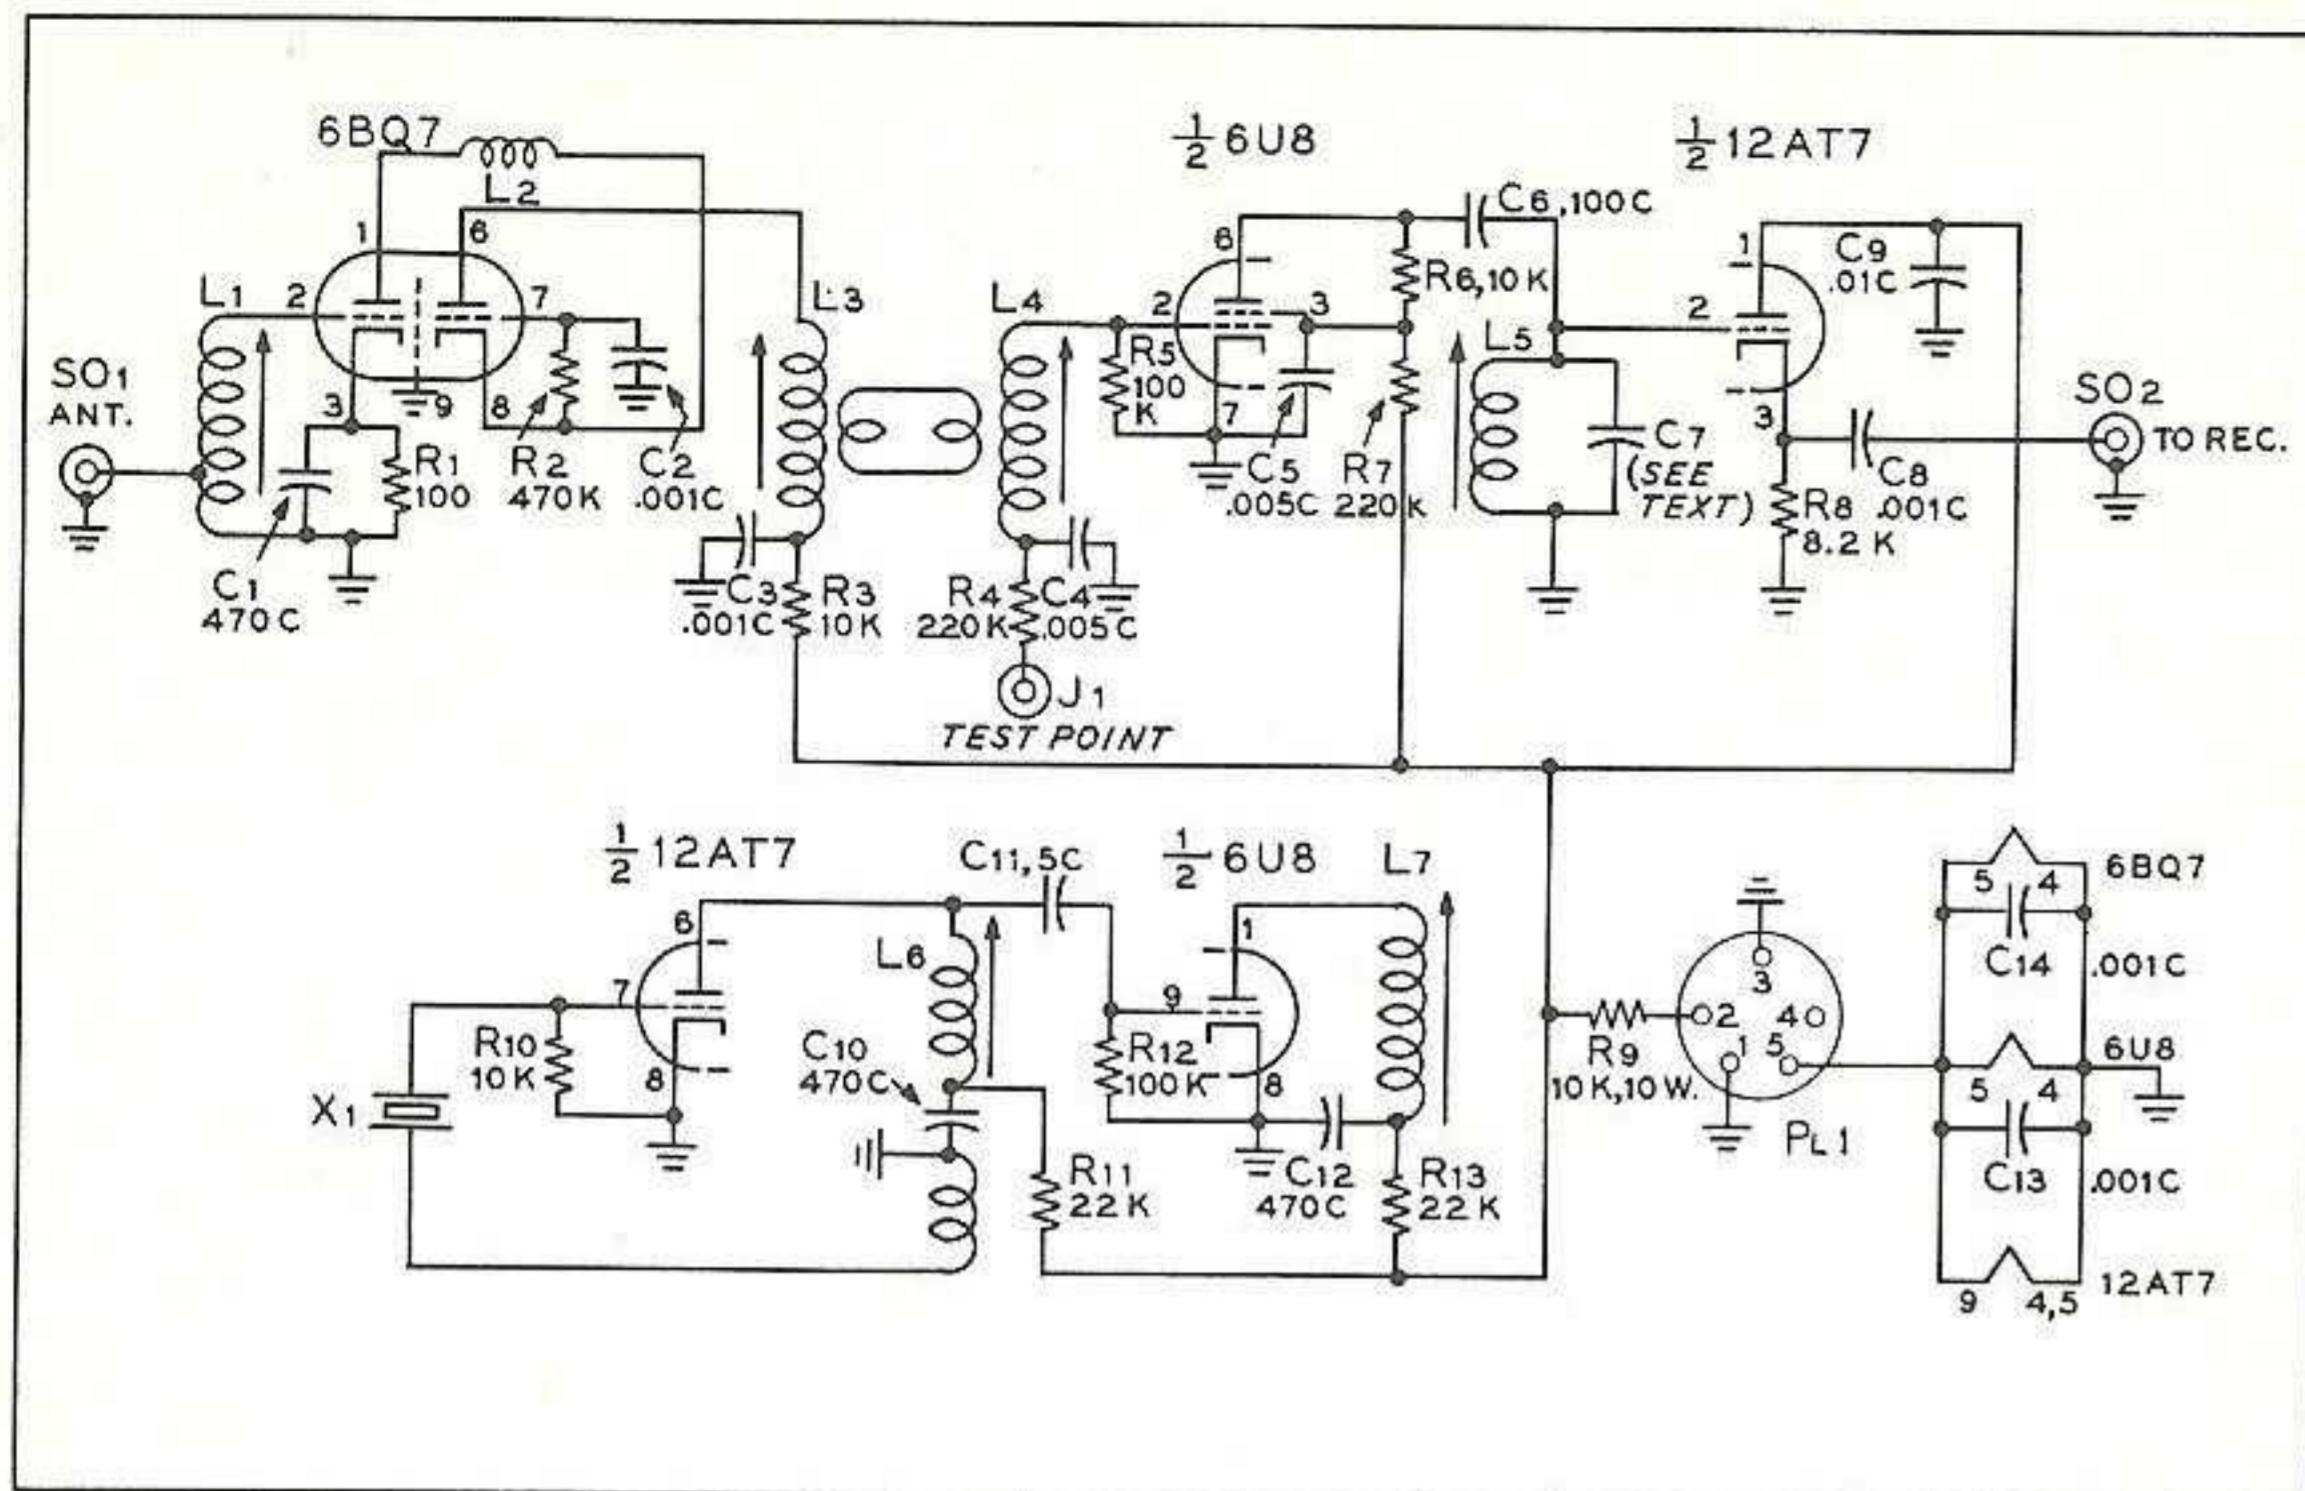

Fig. 16 Schematic diagram of 2N6 crystal-controlled VHF converter.
The 2N6 converter is designed for maximum stability and highest sensitivity in the 50 mc and 144 mc amateur bands. Three tubes are used, as shown in the schematic of Figure 16. A dual triode 6BQ7A is employed as a Cascode r-f amplifier, inductively coupled to a triode-pentode 6U8. The pentode section of this tube is the mixer stage, and the triode section is a frequency multiplier for the conversion oscillator. A test point (J1) is provided in the grid circuit of the mixer stage to allow measurement of the level of oscillator injection. A 12AT7 double triode serves as an overtone crystal oscillator, and as a cathode follower i-f output amplifier stage. "Birdies" and spurious responses are cut to a low value by the use of a double tuned circuit (L3-L4) between the r-f stages of the converter.
- () Check the wiring carefully with Figure 16. Check for poorly soldered joints, shorts, open connections and accidental transpositions.